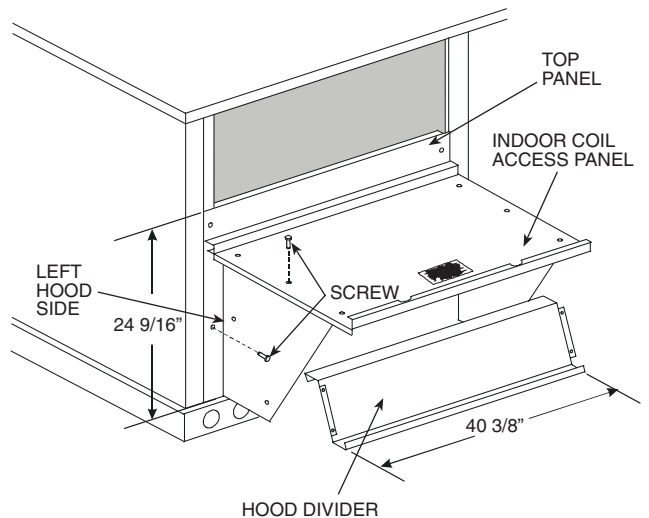

Fig. 25 — Outdoor-Air Hood Construction
4. Swing out indoor coil access panel and insert the hood sides under the panel (hood top). Use the screws provided to attach the hood sides to the hood top. Use screws provided to attach the hood sides to the unit. See Fig. 25.
6. Insert the hood divider between the hood sides. See Fig. 25 and 26. Secure hood divider with 2 screws on each hood side. The hood divider is also used as the bottom filter rack for the aluminum filter.